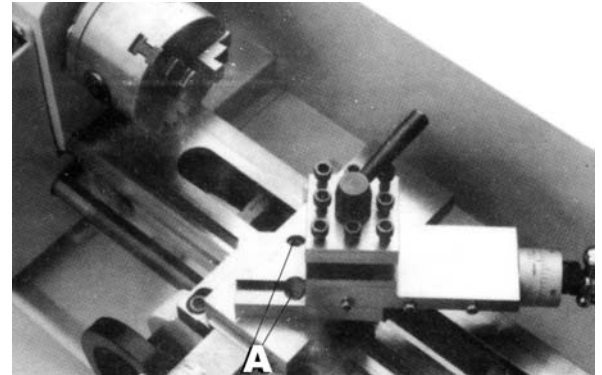

FIGURE 5
Loosen the two screws as shown in (A) Fig. 5. After you have obtained the angle you desire, do not forget to retighten the two screws.